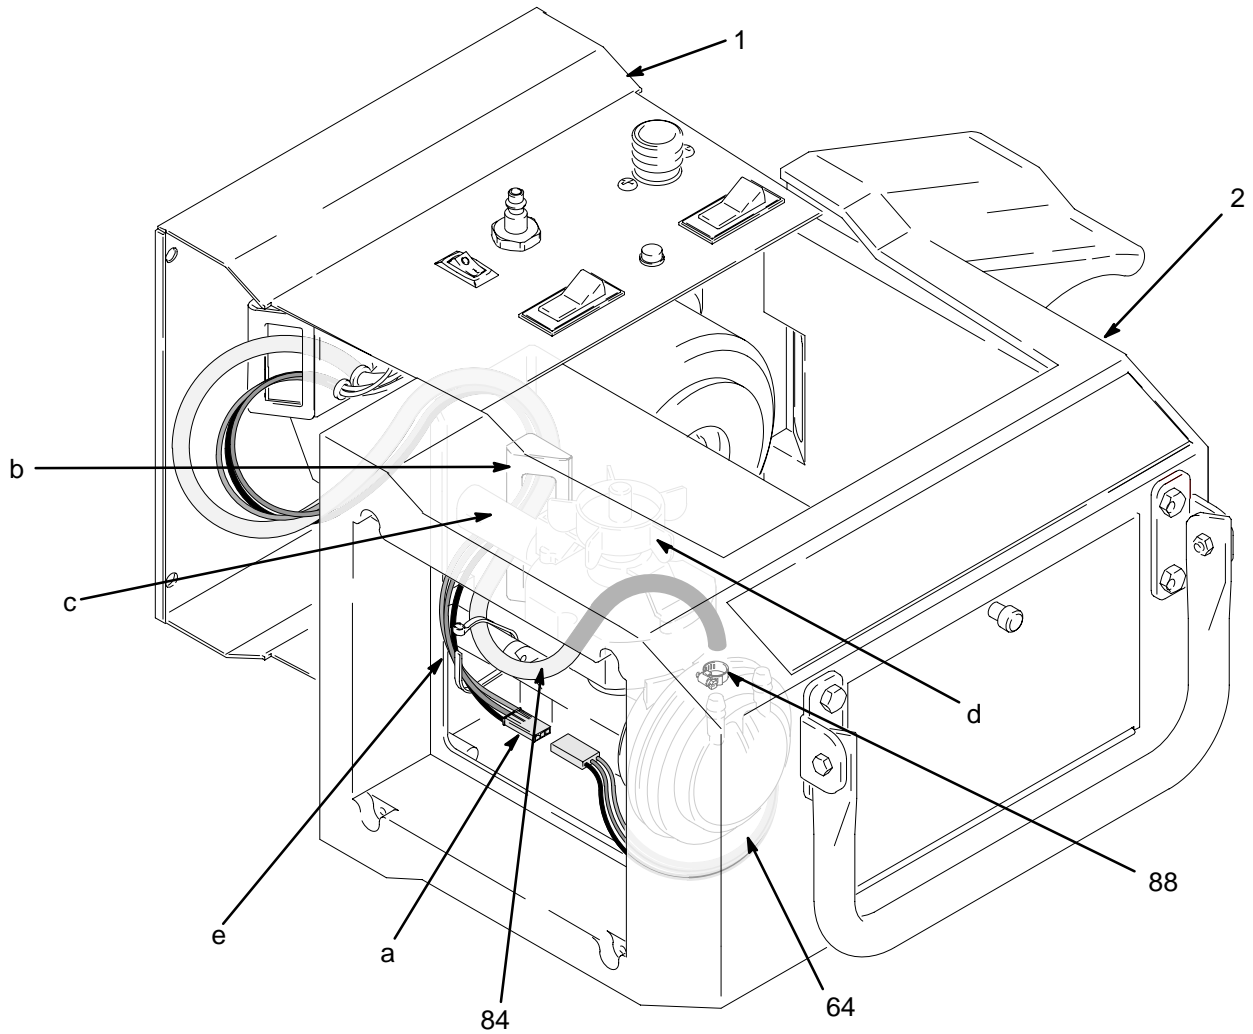
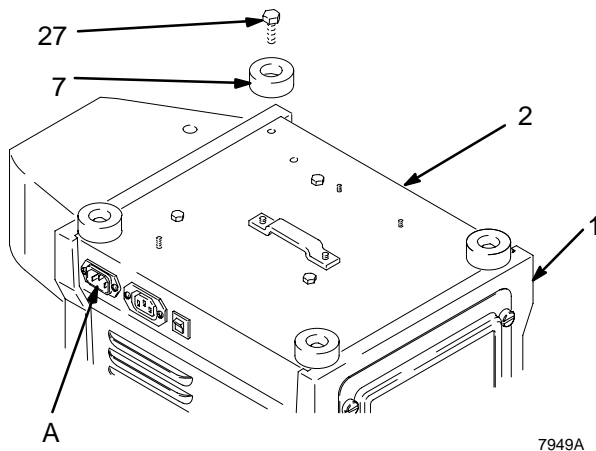

Fig. 8
Fig. 9
Turbine Sprayer Disassembly (unless otherwise indicated, refer to Fig. 8 and Fig. 9).
Replace power cord by unplugging from IEC connector (A). Install new cord. See Fig. 9